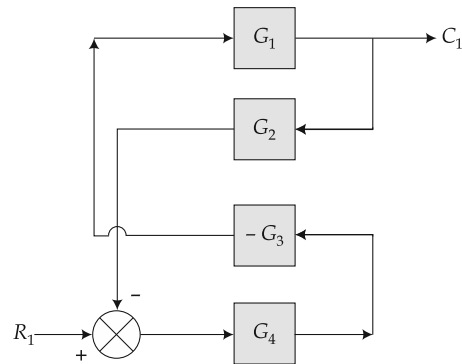
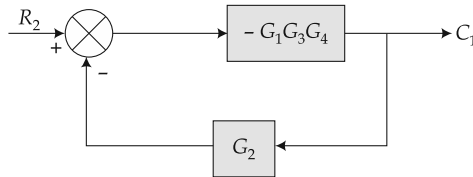
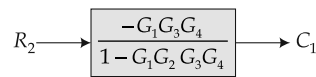

Fig. 2.42
Fig. 2.43
Fig. 2.44
Step 6: G_2 , G_3 and G_4 are in cascade, Fig. 2.42 reduces to Fig. 2.43.
Step 7: Eliminating feedback loop, Fig. 2.43 reduces to Fig. 2.44.